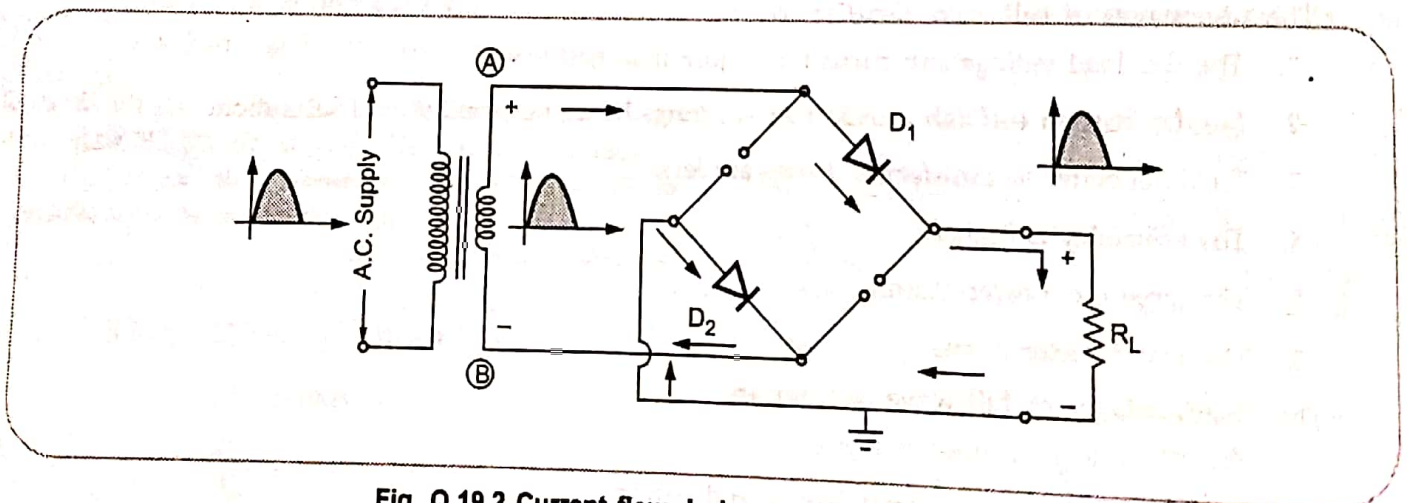

Fig. Q.19.2 Current flow during positive half cycle
- Consider the positive half of ac input voltage. The point A of secondary becomes positive. The diodes D_1 and D_2 will be forward biased, while D_3 and D_4 reverse biased. The two diodes D_1 and D_2 conduct in series with the load and the current flows as shown in Fig. Q.19.2.